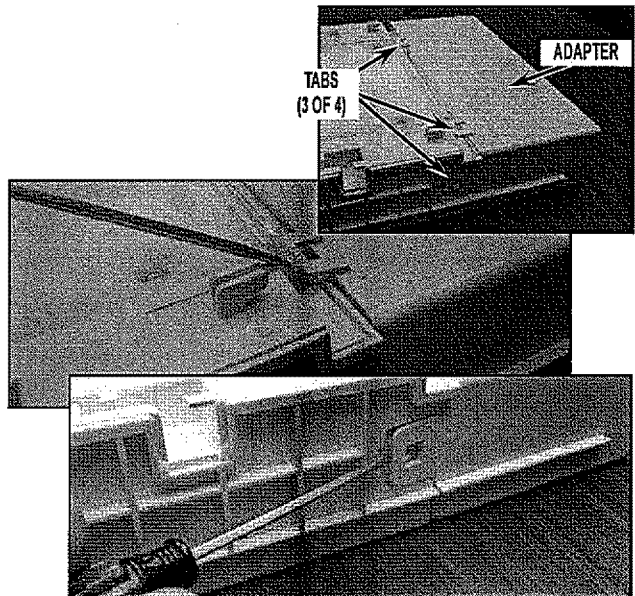

FIGURE 12
15. Remove the adapter from the ice box assembly. Use flat head screwdriver to release 4 tabs holding the adapter to the ice box and discard adapter. See Figure 12.